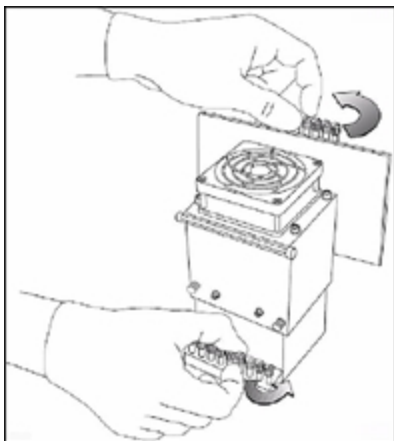

Figure 6-76 Releasing the locking screws
18. Tighten the upper and lower screws that secure the print head in the print block (see Figure 6-76 on page 6-59).